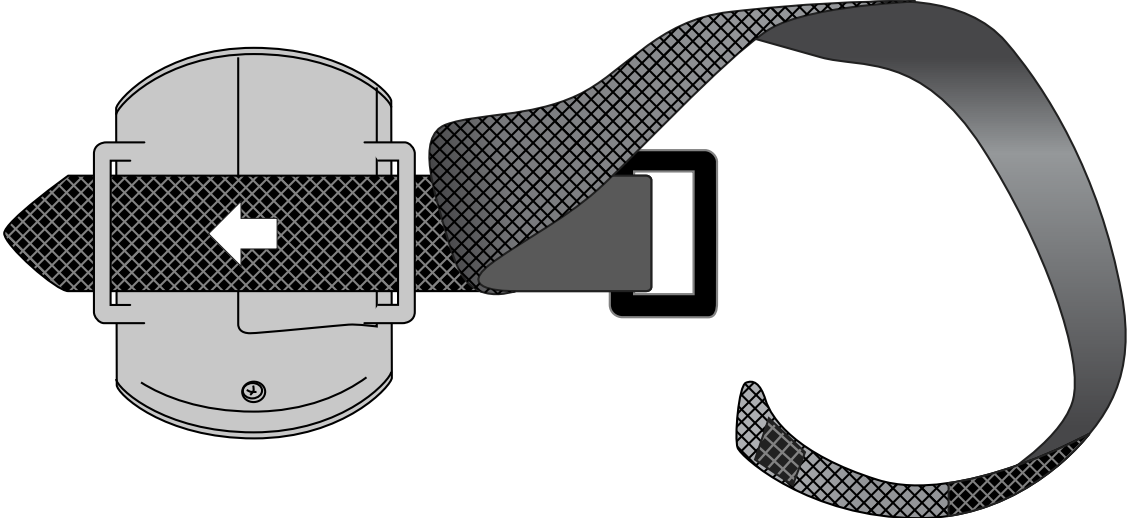
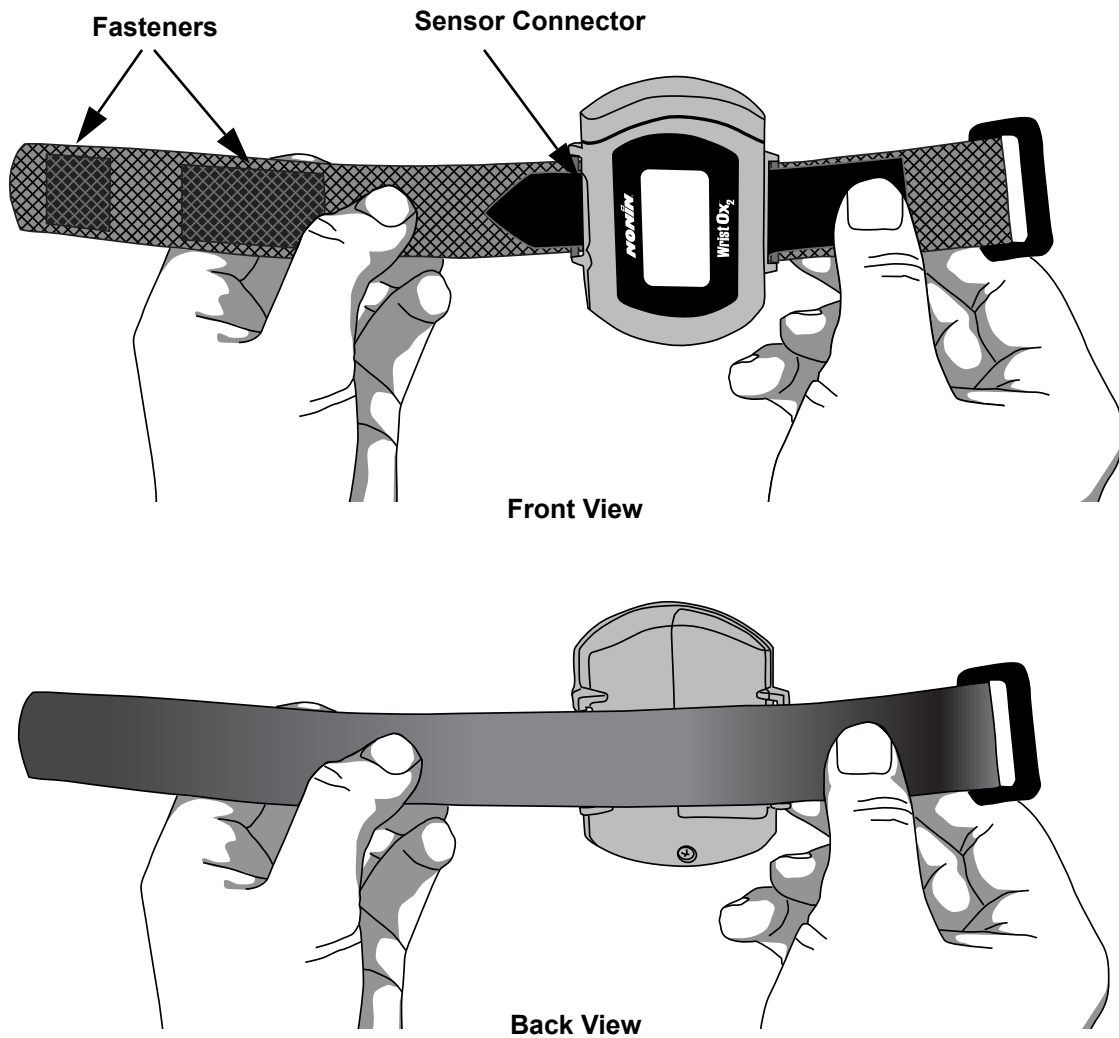

Figure 7: Thread Short Segment
Figure 9: Device with Wristband Attached (Front and Back Views)
Figures 7 and 8 demonstrate how to attach the wristband to the device. Figure 9 shows front and back views of the attached wristband.
1. Verify the wristband has been attached properly to the device (figure 9). If the wristband has not been attached to the device, see "Attaching the Wristband."